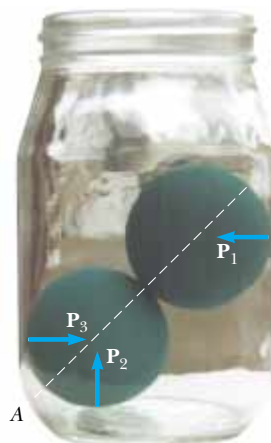

Figure P12.62
62. Two racquetballs are placed in a glass jar, as shown in Figure P12.62. Their centers and the point A lie on a straight line. (a) Assume that the walls are frictionless, and determine P_1 , P_2 , and P_3 . (b) Determine the magnitude of the force exerted by the left ball on the right ball. Assume each ball has a mass of 170 g.